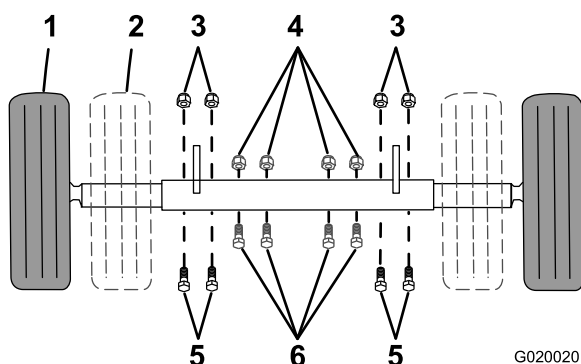

Figure 23
1. Support point (2)
- Remove the bolts and nuts that secure the inner axle to the outer axle (Figure 23).
- Slide each side of the axle inward to the narrow position (Figure 23).
- Slide each side of the axle outward to the wide (tow) position (Figure 23).
- Insert the bolts through the axle holes (Figure 23).